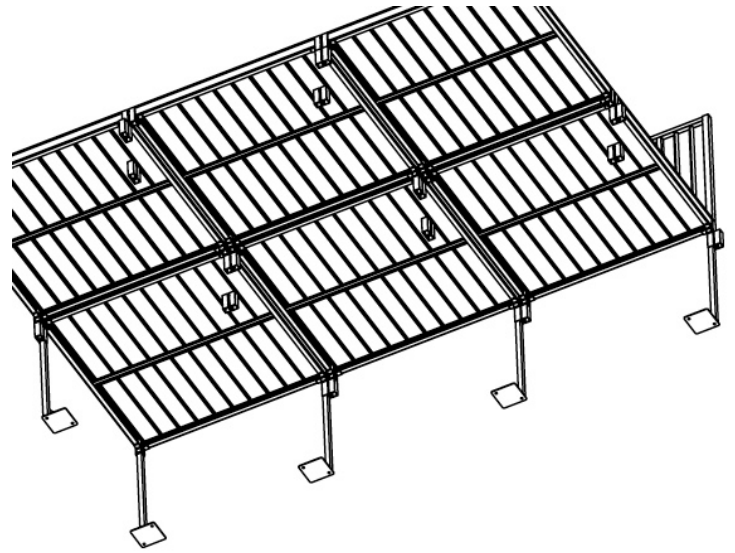

FIG. 10
- 1.7.8.3 Whenever possible, especially where four platforms come together, the dual platform connector on one side of a platform should be oriented in the opposite direction from the other side and the orientation should then be alternated as the deck is created (FIG. 10).